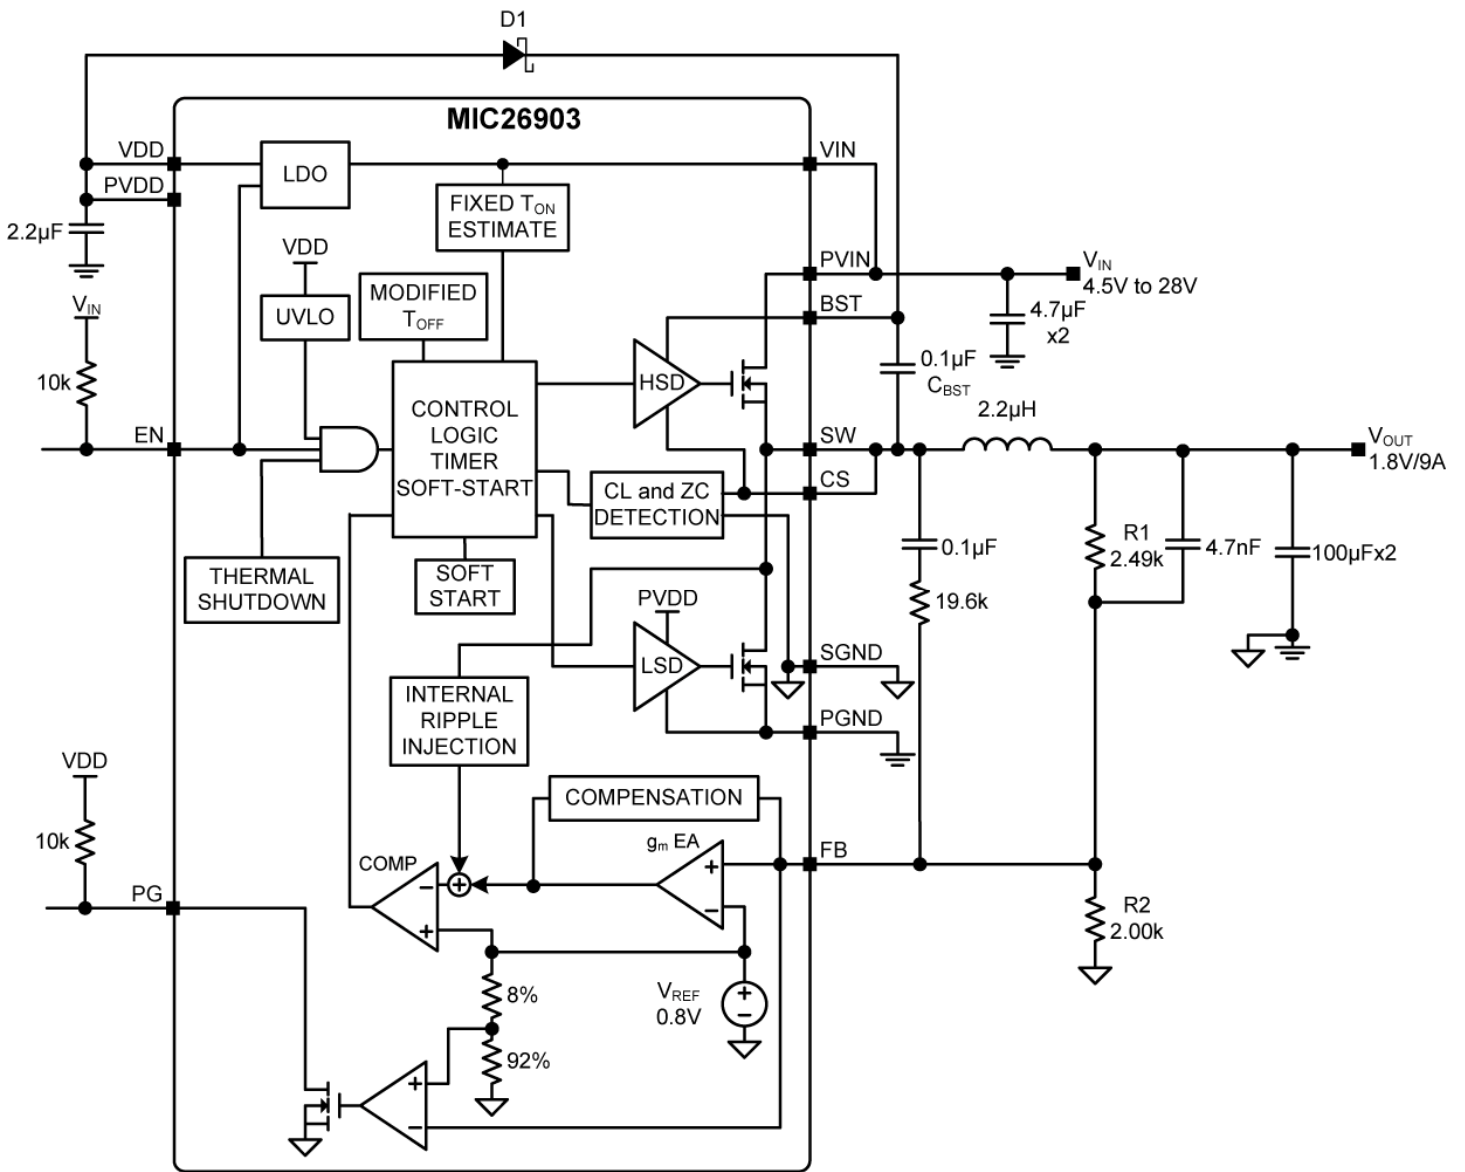

Figure 1. MIC26903 Block Diagram
The MIC26903 is able to operate in either continuous mode or discontinuous mode. The operating mode is determined by the output of the Zero Cross comparator (ZC) as shown in Figure 1.
The Block Diagram (Figure 1) shows a bootstrap circuit, consisting of D1 (a Schottky diode is recommended) and  $C_{BST}$ . This circuit supplies energy to the high-side drive circuit. Capacitor  $C_{BST}$  is charged, while the low-side MOSFET is on, and the voltage on the SW pin is approximately 0V. When the high-side MOSFET driver is turned on, energy from  $C_{BST}$  is used to turn the MOSFET on. As the high-side MOSFET turns on, the voltage on the SW pin increases to approximately  $V_{IN}$ . Diode D1 is reverse biased and  $C_{BST}$  floats high while continuing to keep the high-side MOSFET on. The bias current of the high-side driver is less than 10mA so a 0.1 $\mu$ F to 1 $\mu$ F is sufficient to hold the gate voltage with minimal droop for the power stroke (high-side switching) cycle, i.e.  $\Delta BST = 10\text{mA} \times 1.67\mu\text{s} / 0.1\mu\text{F} = 167\text{mV}$ . When the low-side MOSFET is turned back on,  $C_{BST}$  is recharged through D1. A small resistor  $R_G$ , which is in series with  $C_{BST}$ , can be used to slow down the turn-on time of the high-side N-channel MOSFET.